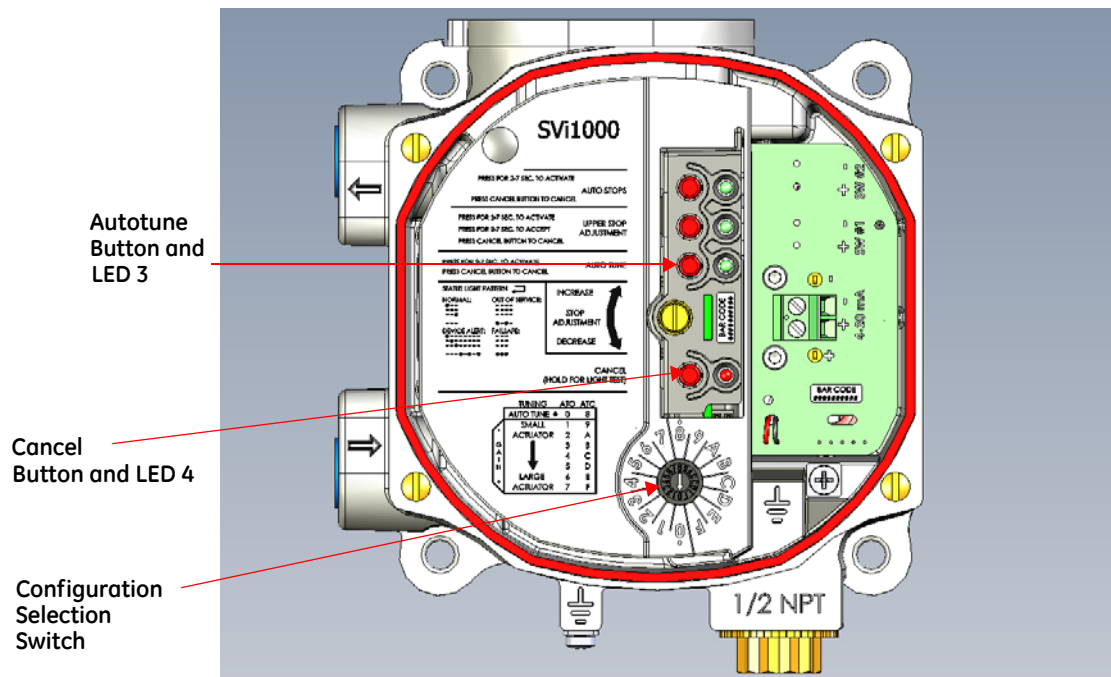

Figure 29 Configuration Selection Switch
1. Set the *Configuration Selector Switch* to the auto tuning parameter (Figure 29):